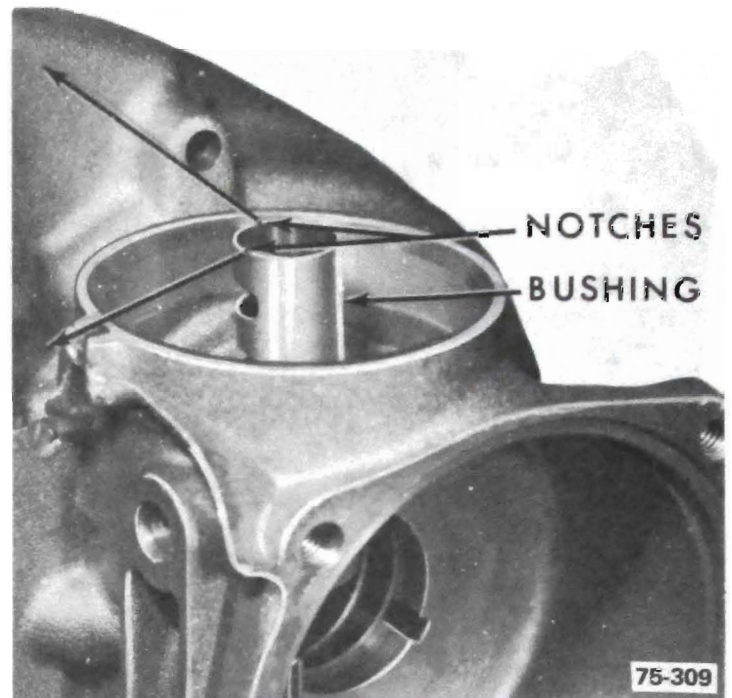

Figure 75-293
- a. Note the two (2) notches at one end of the bushing.
- b. Position the notches so that one notch is toward the front of the case and the other is toward the bottom of the case. See Figure 75-293.